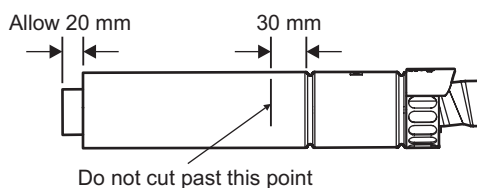

Fig. 5.10
5.7 REDUCING THE FLUE - Fig. 5.10
When the flue length required is less than the minimum stated in Section 4.5, paragraph 1, refer to Fig. 5.10. Discard the first telescopic section (**not** the section with the terminal) of the Easy-Flue 1000 mm or 500 mm and cut to the required length.